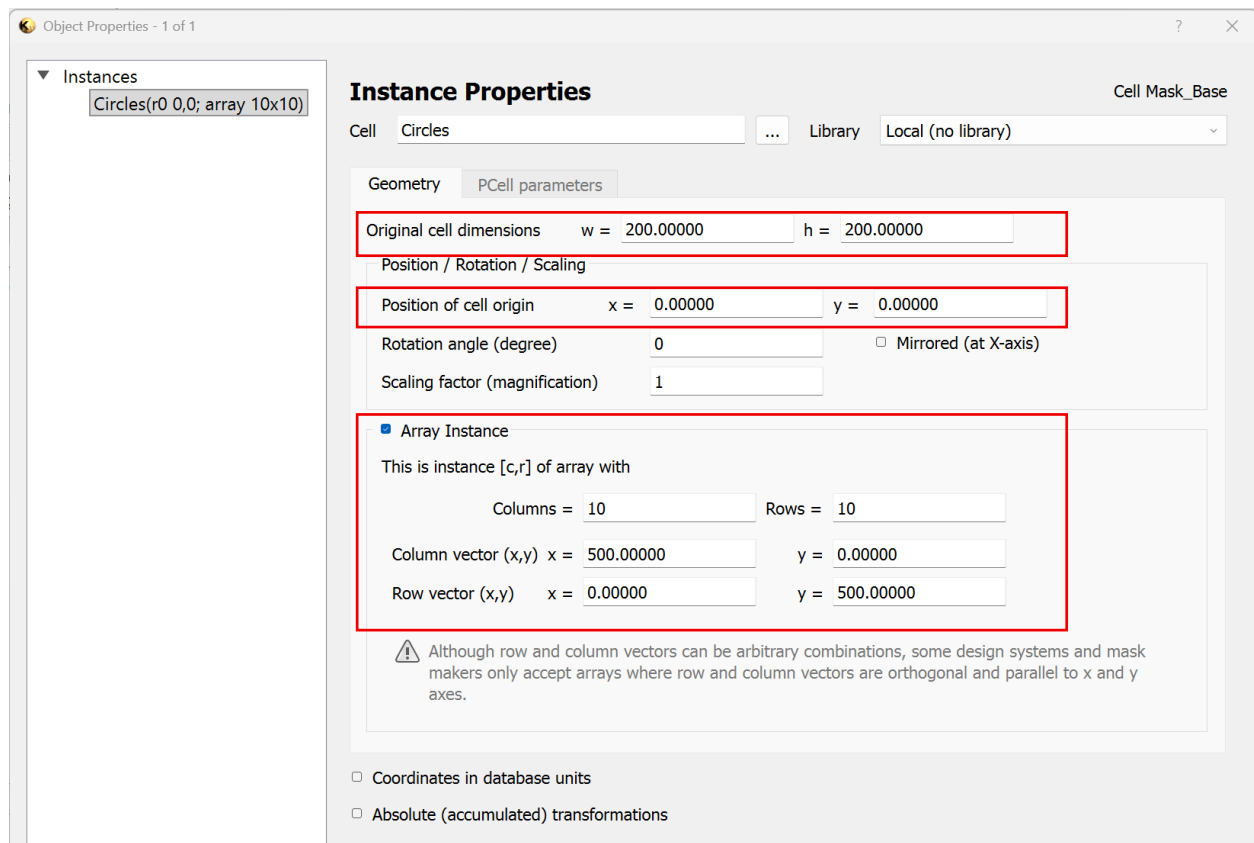
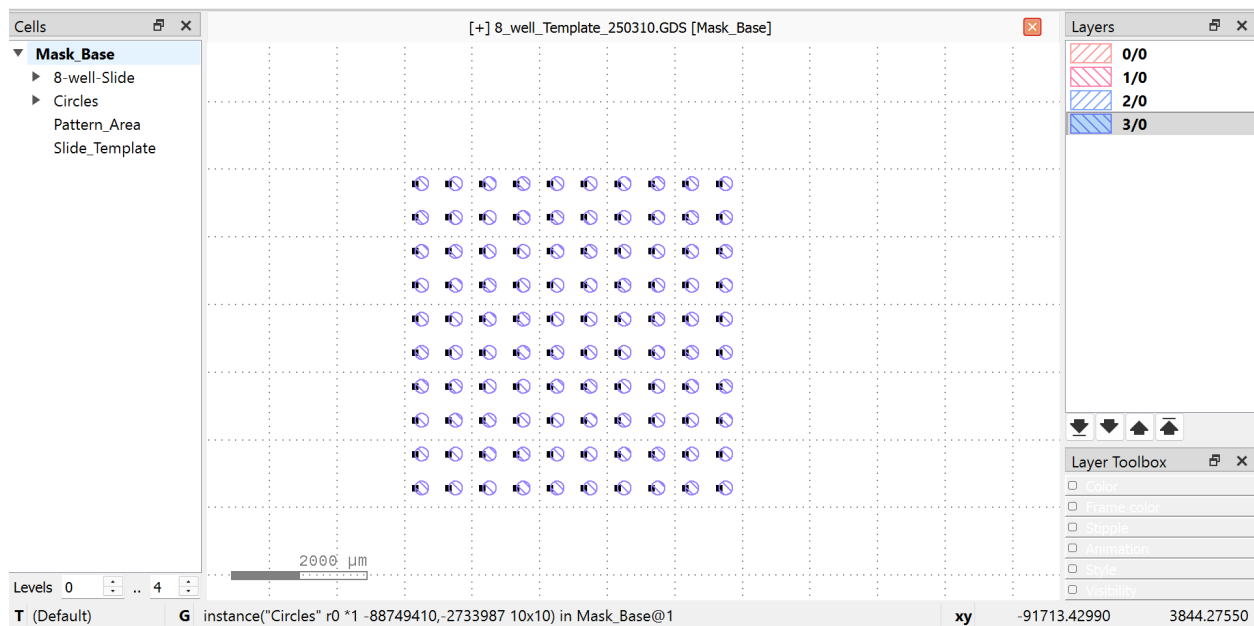

Figure 6: Adjusting the cell dimensions as well as the position of cell origin within the Instance Properties.
Figure 7: Illustration of a 10 x 10 array of the drawn circle structures.
10. When you drag and drop the circle cell into the main cell, a dialog window will appear (see Figure 6).
12. Arrays can be created by selecting the “Array Instance” checkbox and adjusting the number of columns and rows, as well as the spacing between each structure (see Figure 6 and Figure 7).